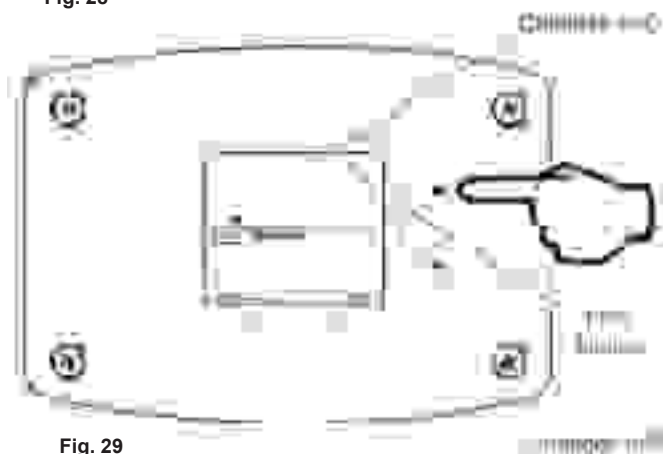

Fig. 29
- 3a. Press 'Temperature Up' button to change temperature format to °C (Fig. 29).